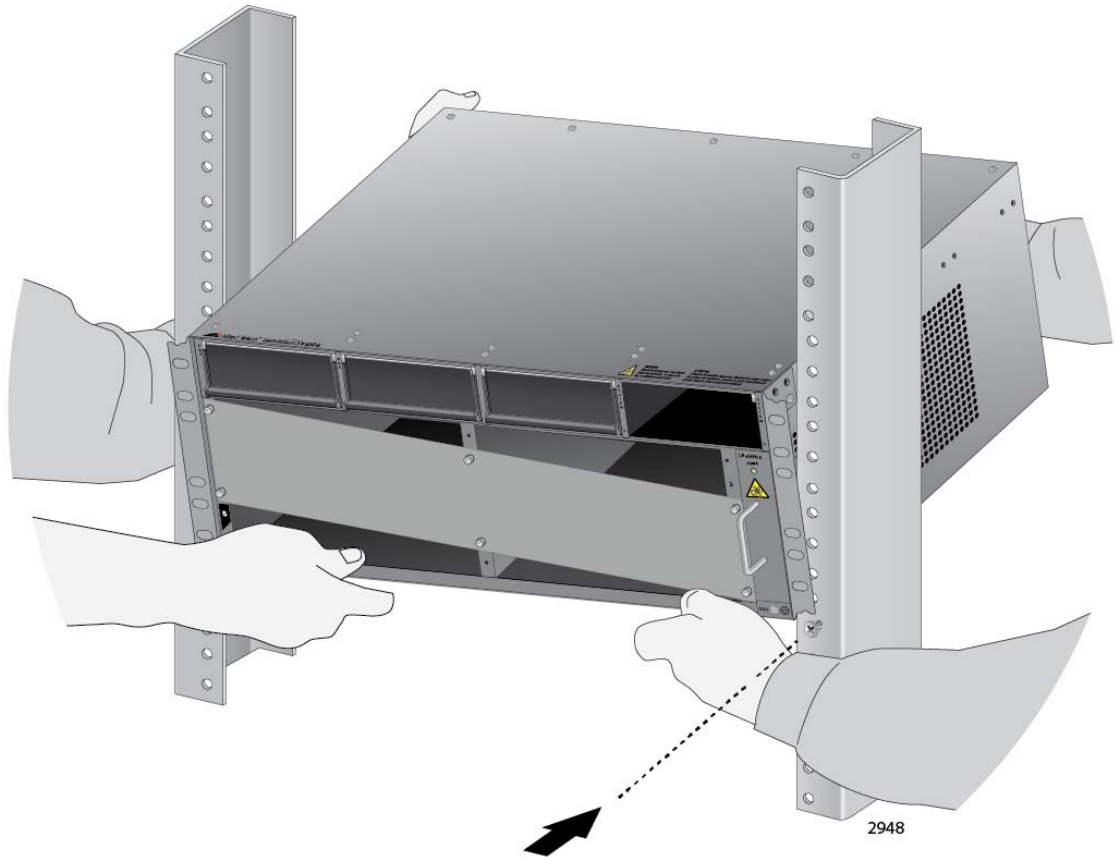

Figure 51. Lifting the AT-SBx8106 Chassis into the Equipment Rack
2. Lift the AT-SBx8106 Chassis into the equipment rack and set the bottom of the equipment rack brackets firmly on the two equipment rack screws you installed in “Preparing the Equipment Rack” on page 115, as shown in Figure 51.